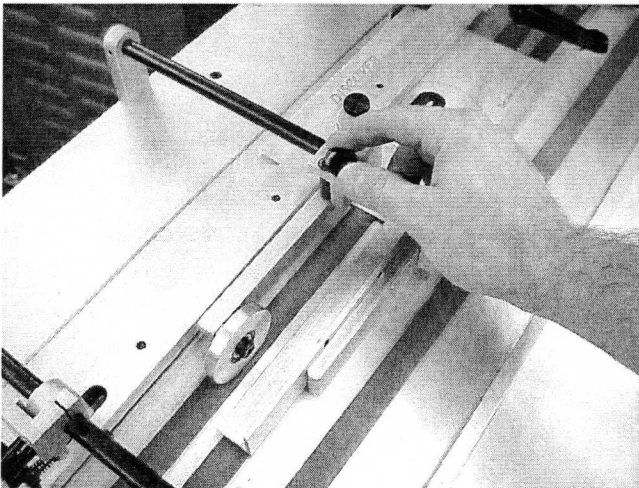

Figure 5
3. Adjust the bump turn pinch roller (see **Figure 5**) so that it rides over a conveyor belt. Apply slight pressure on the pinch roller bracket to load the spring causing the roller to press down on the conveyor belt.